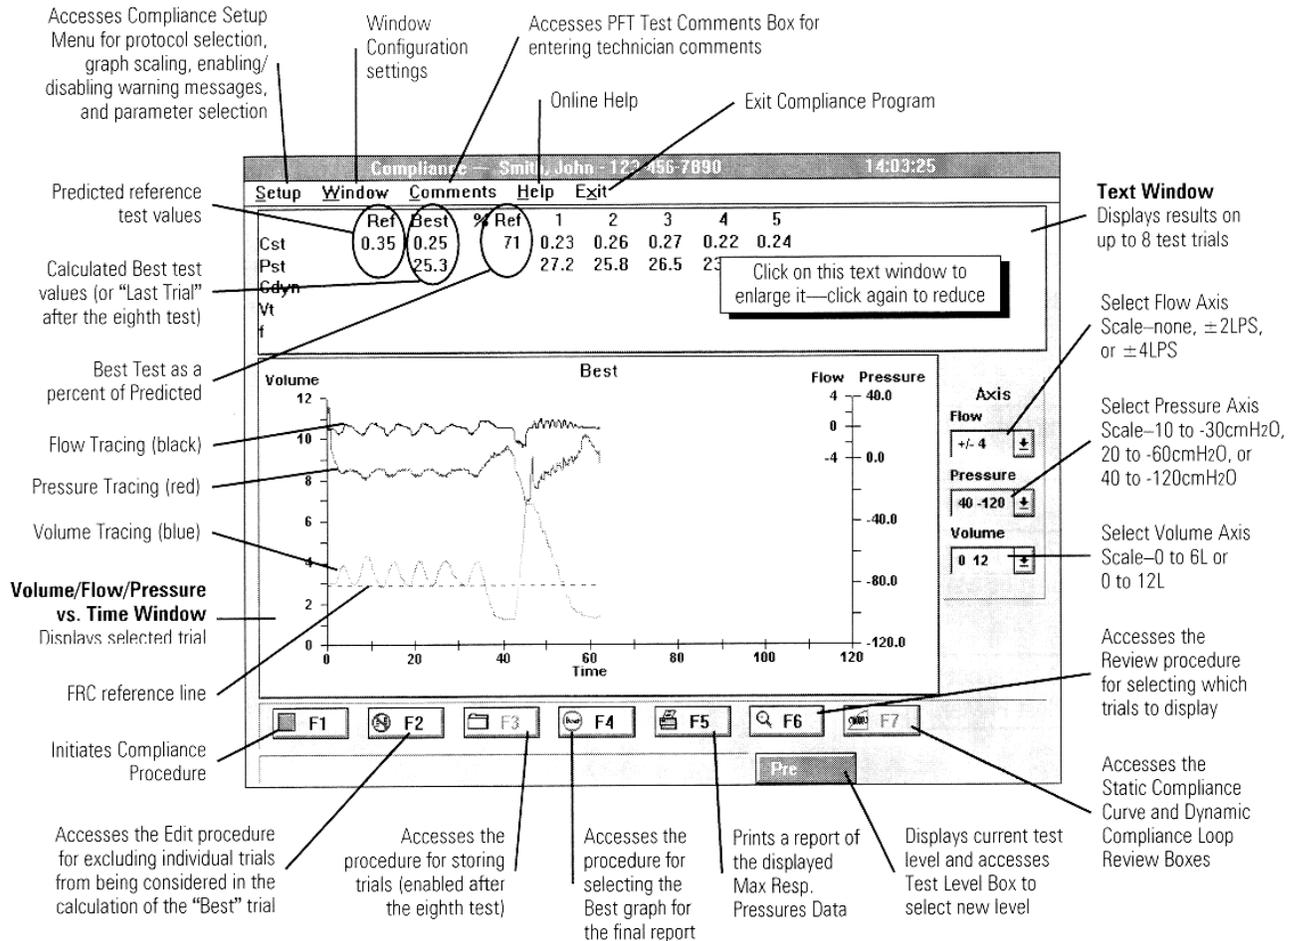

Figure 7-2 – Compliance Test Screen
2. From the **Pulmonary Function Menu**, select **4 Compliance** to display the **Compliance Test screen** (Figure 7-2).